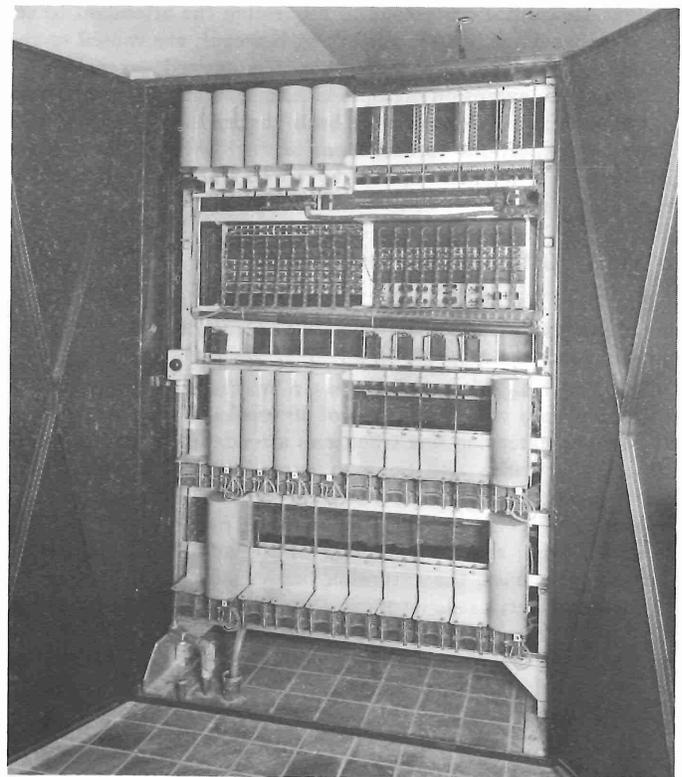

Fig. 3.
4.3 The selector-connector side of the frame (Fig. 3) has four shelves. The top shelf is arranged to mount the attendant's telephone and line circuit unit and trunk or tie line units. The second shelf is arranged for trunk or tie line units and the two bottom shelves are used to mount selector-connectors. The test line jack is also mounted on this side of the frame.